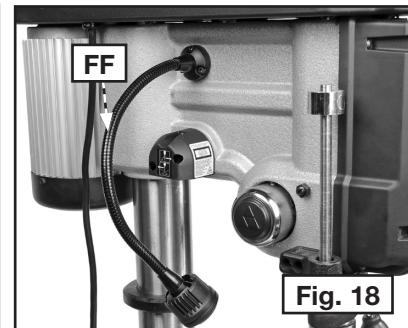

Fig. 18
6. Final assembly of LED worklight (FF) looks like Figure 18.